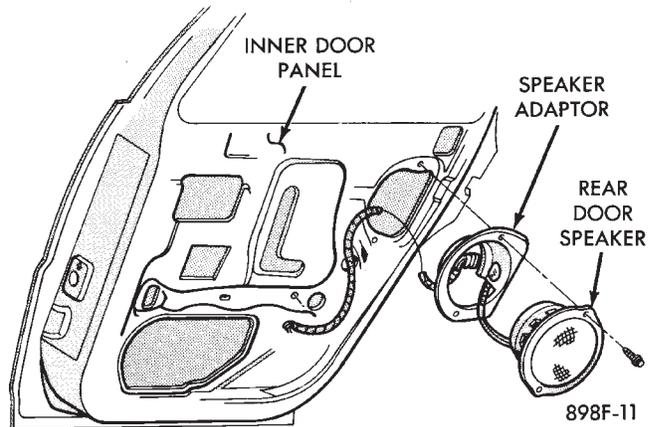

Fig. 22 Rear Door Mounted Speaker—AA Body
- (1) Remove door trim panel.
- (2) Remove speaker-adaptor retaining screws (Fig. 22).